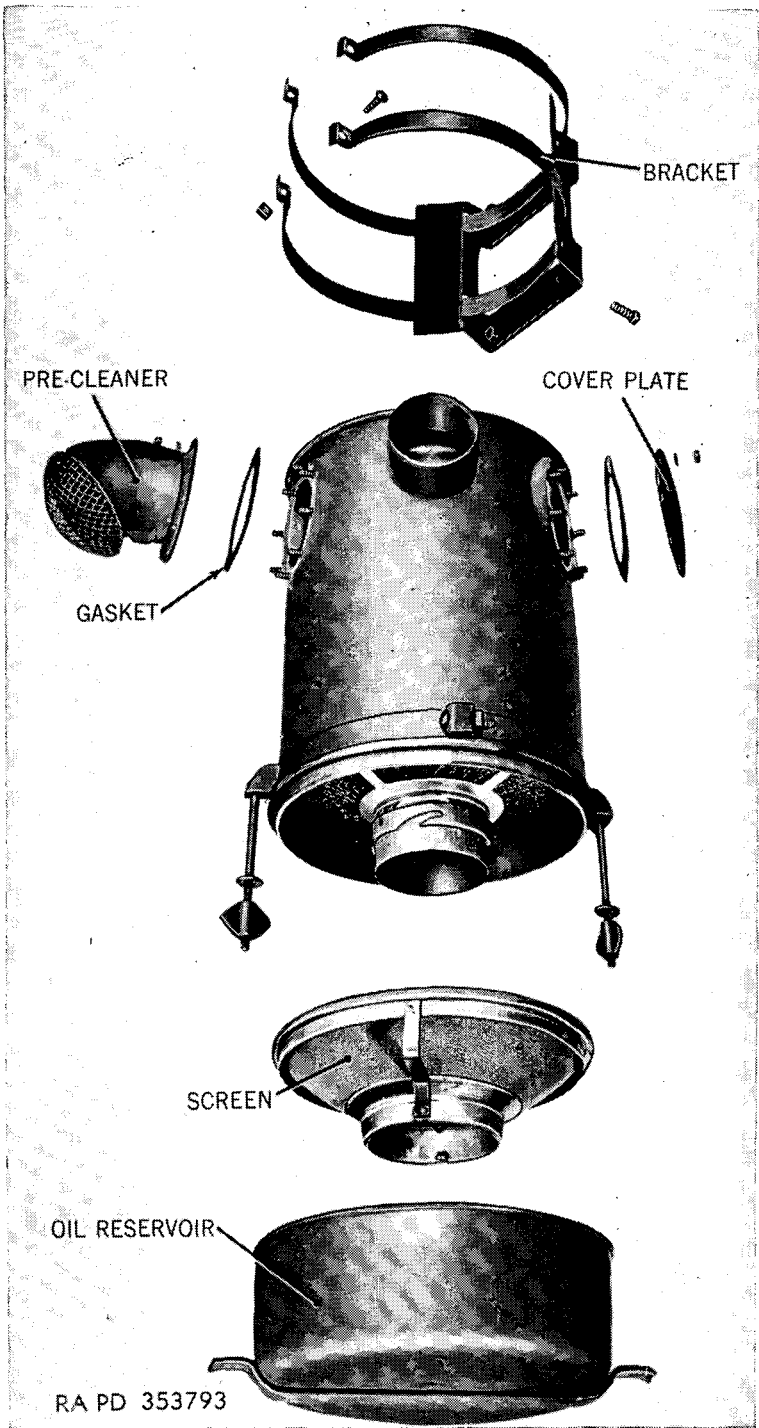

Figure 76. Air cleaner (Donaldson)—exploded view.
a. SERVICING. Loosen the two wing nuts which hold the air cleaner oil reservoir to the air cleaner. While supporting the reservoir from bottom, swing out the retaining bolts and lower the reservoir. Remove screen from Donaldson type air cleaner (fig. 76) by turning screen counterclockwise, then pulling screen down out of air cleaner. Remove element from AC type air cleaners (fig. 77) by pulling it downward. Pour out old oil and clean reservoir and screen with dry-cleaning solvent or volatile mineral spirits paint thinner. Dry all units thoroughly with compressed air if available, fill reservoir to level indicated, using approximately 3 quarts of engine oil (seasonal grade) (par. 62), and install screen or element and reservoir.